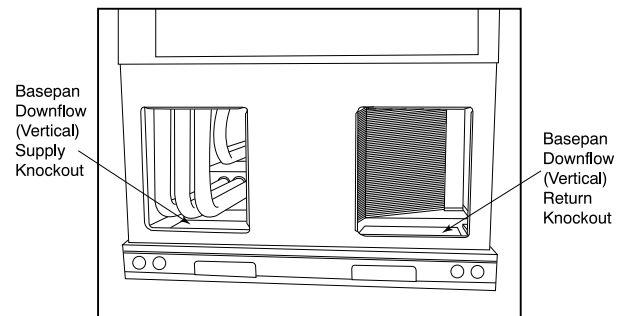

Fig. 6 – Supply and Return Duct Opening
2. Remove horizontal (metal) ductcovers to access vertical (downflow) discharge duct knockouts in unit basepan. (See Fig. 6.)
NOTE: These panels are held in place with tabs similar to an electrical knockout. Reinstall horizontal duct covers (Fig. 6) shipped on unit from factory. Insure openings are air and watertight.